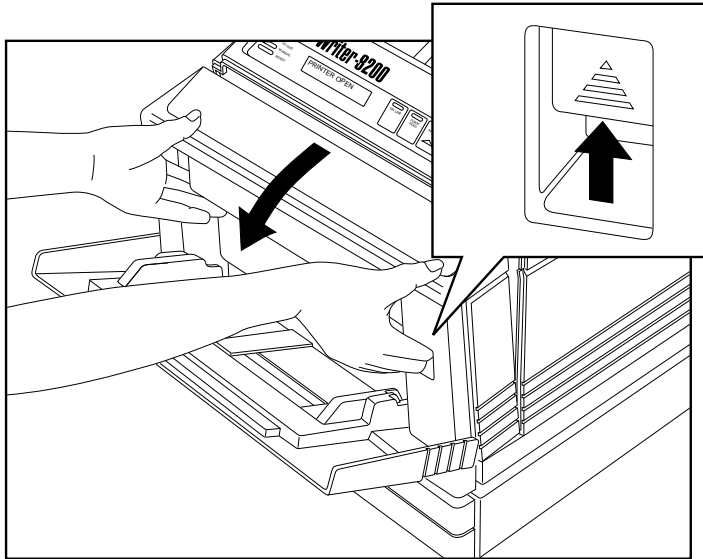

Fig. 2.5 Open the Front Cover
7. Open the front cover by lifting the release latch and tilting the cover towards you (fig. 2.5).
2. If the front cover is closed, open it by lifting the release latch and tilting the cover towards you (fig. 2.5).